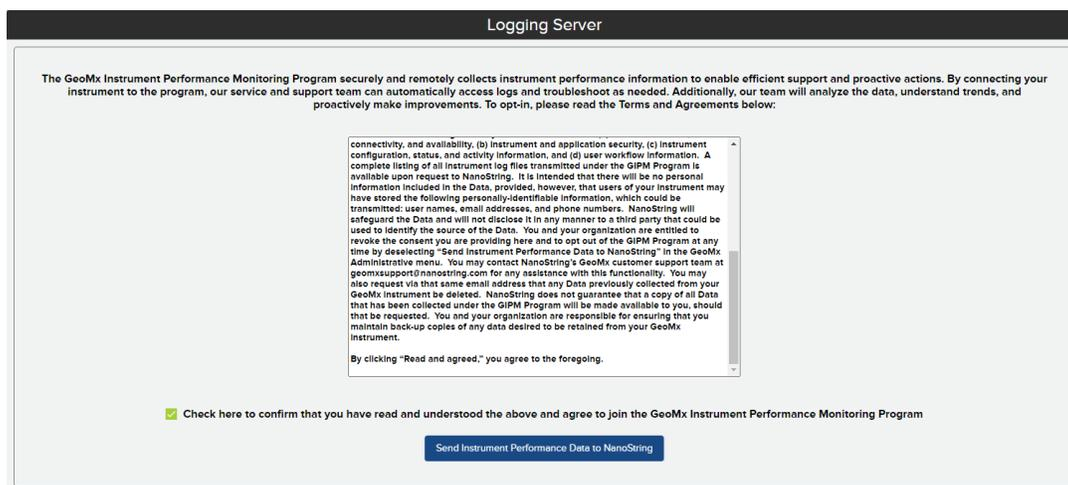

Figure 88: Performance Monitoring option
- Select **Performance Monitoring** from the **Administration** menu \(Figure 88\).